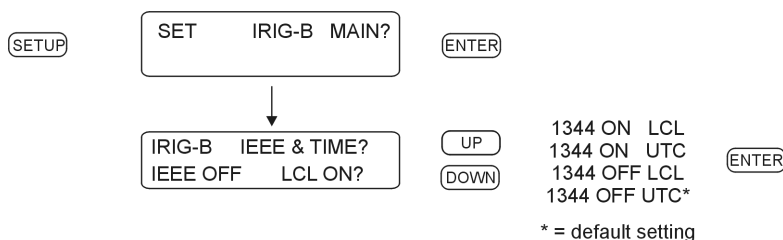

Figure 6.18: IRIG-B Configurations
There are two separately-controlled IRIG-B outputs in the Model 1094B: “Set IRIG-B Main” and “Aux IRIG-B Mode.” Configure the main IRIG-B settings from this section, and auxiliary (AUX) IRIG-B mode from Section 6.9.12. In this way, you can set up two different time zones for IRIG-B. IRIG-B is an electronic time code, synchronized to the GPS, that is transmitted each second from the Model 1094B. The four choices are (1) setting the time zone to UTC or Local, and (2) having the IEEE-1344 extension turned ON or OFF. To transmit the IRIG-B time code in the UTC time zone, the time will be offset from your local time determined by your locale. IEEE-1344 extension increases the amount of information contained in the time code, including the two-digit date and time quality. To use the IEEE-1344, your receiving equipment (e.g. relays, RTU’s, etc.) must be designed to receive the IEEE-1344 time code. See Figure 6.18.